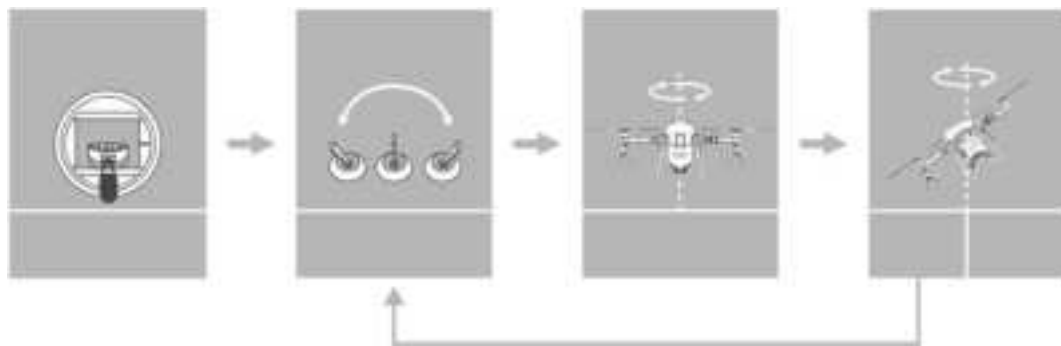

Figure 1-37 Compass Calibration
**Step 5:** Calibration fails if the status indicator shows solid red for 4s. Repeat Step 2-4 until the operation succeeds. See Figure 1-37.